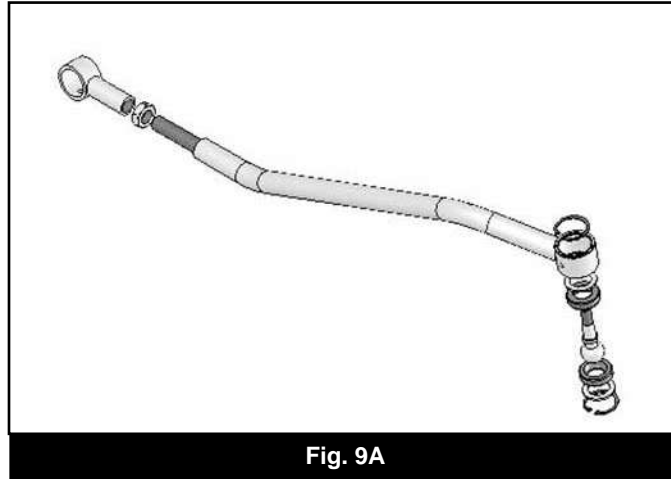

Fig. 9A
39. The ball stud end is shipped assembled. See figure 9A below for rebuild instructions. Center the stud and install into the original tapered frame mount. Use an 18mm wrench to hold the flats while tightening down the 1/2" fine thread nylock nut with the 12mm flat washer. There will be a slight gap between the flats and OE mount once installed. Tighten to 55 ft-lbs.